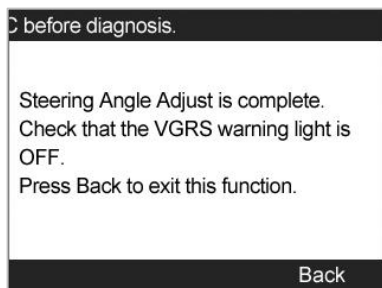

Figure 10.12
- 2) The tool will display a series of instructions. Follow the onscreen instructions step by step until the operation is completely finished. If the operation is finished successfully, the scan tool will display a confirmation message (Figure 10.12). Otherwise, it will display a message to remind user of a problem. After you exit the diagnosis program, please repair the problem immediately.